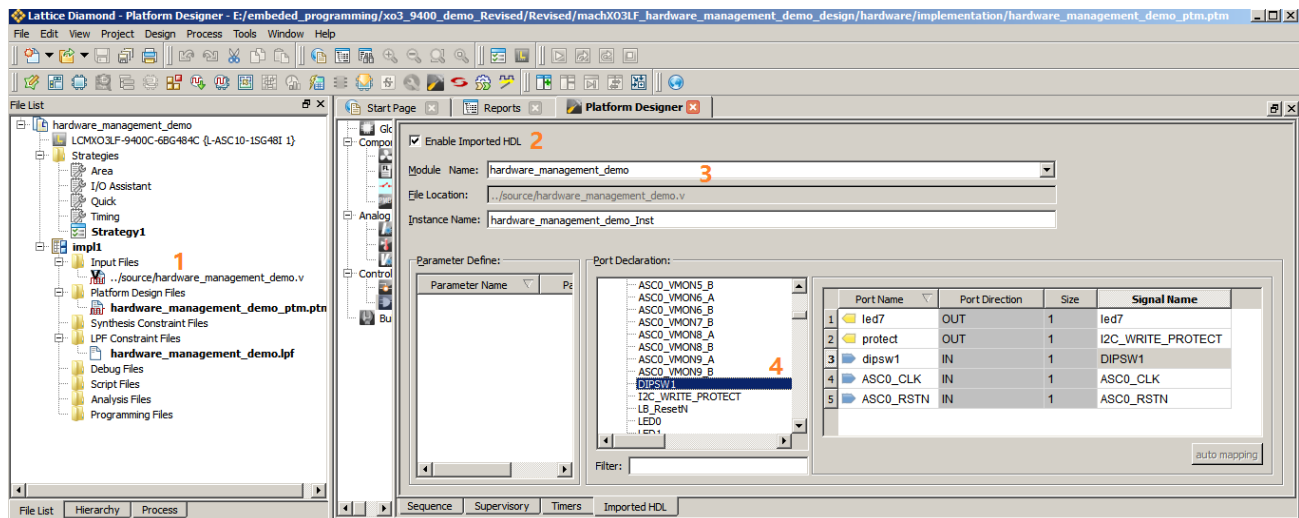

Figure 6.7. Importing HDL Module to Platform Designer
1. Add the HDL file to Diamond as shown in Figure 6.7.